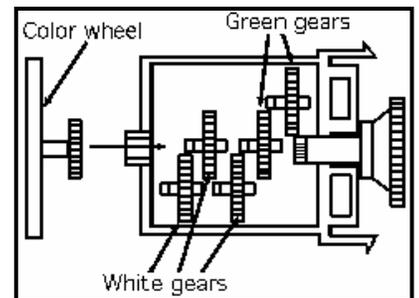

Figure 8
18. Install the color wheel. (Note: Make sure to reset the color wheel. Remove color wheel cover (4 clasps). Lift the gear adjacent to the color wheel, and turn the color wheel clockwise. Install the adjacent gear and replace cover (Fig 8).